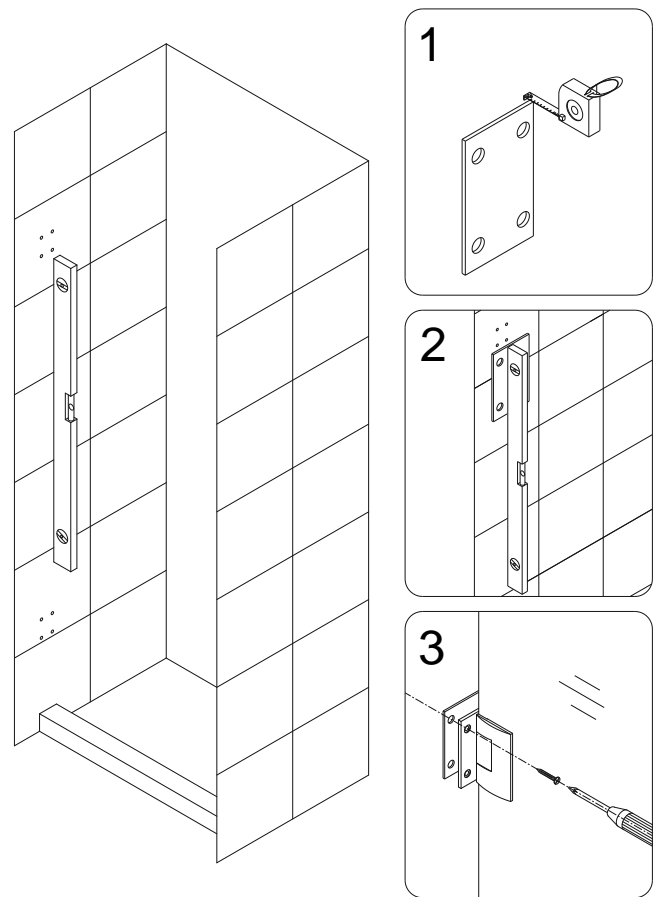

Fig. 4
The included PVC hinge spacers (31) are provided to compensate for minor out-of-plumb wall conditions. Use only as necessary as their use could compromise the opening size of your shower. Please see Fig 4 for an installation example*.
4. Place the **Door Glass (01)** back onto the threshold along with the 5/8" spacers and attach both hinges to the wall with two **Countersunk screws ST5×70 (04)** on the hinge from outside of the shower. Then open the door and install the remaining screws to both wall plates from the inside.
(Fig 3 and Fig 4)